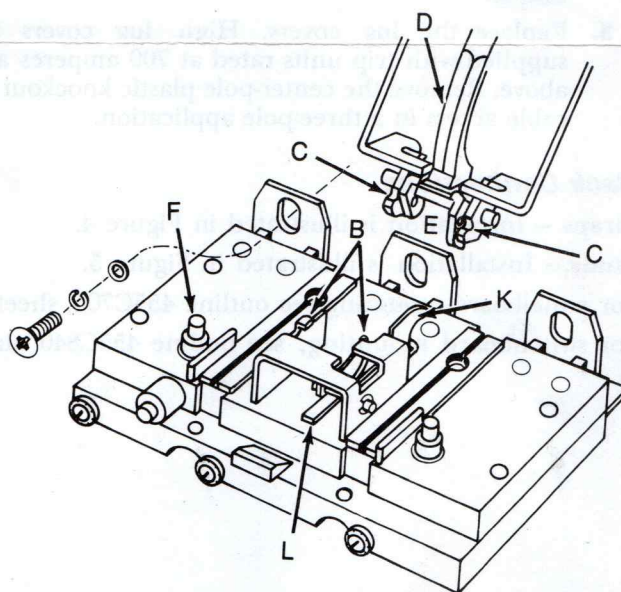

Figure 2. Trip unit installation.
4. Push in and engage lever K, shown in Figure 2.
5. Push in and hold lever L, shown in Figure 2. Place the trip unit in the breaker, engaging hooks B with slots C.
3. Trip the breaker by pushing button F or lever L, shown in Figure 2.